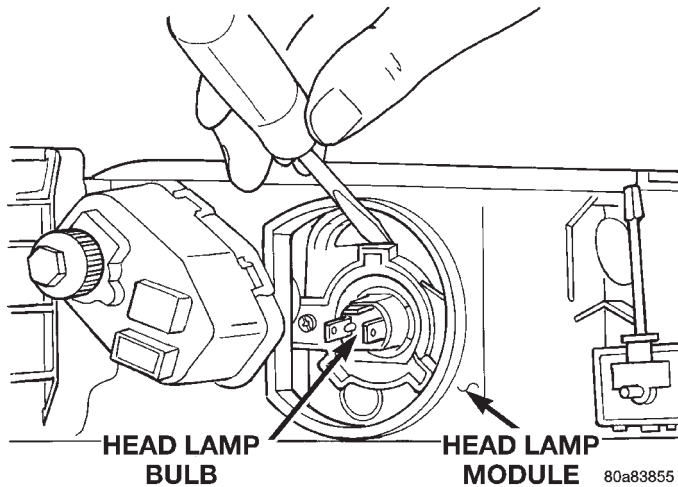

Fig. 4 Seating Headlamp Leveling Motor
- (1) Insert and rotate headlamp leveling motor into the headlamp module.
- (2) With a flat blade screwdriver gently pry on headlamp reflector mechanism and fully seat headlamp leveling motor ball stud into the socket (Fig. 4).